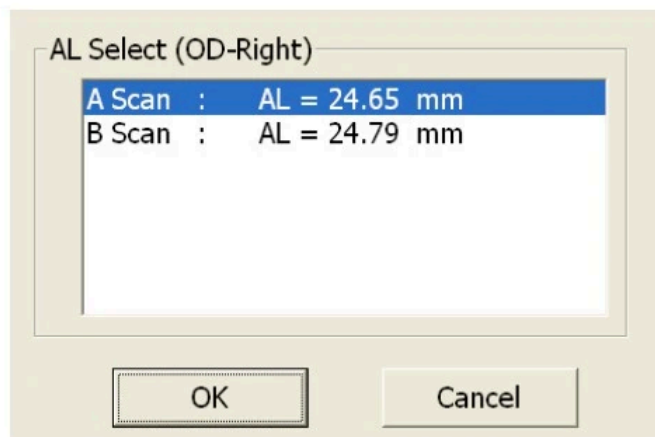

Figure 4-7-2 Dialog Box for Selecting AL Value
- e) Click **AL Select**, and a dialog box for selecting AL value pops up. "A Scan" row shows the AL value acquired from measurement under A-Scan mode; and "B Scan" row shows the AL value acquired from 5-Point Marking Method under B-Scan mode (shown in Figure 4-7-2).
- f) Click **AL Select**, and a dialog box for selecting AL value pops up. "A Scan" row shows the AL value acquired from measurement under A-Scan mode; and "B Scan" row shows the AL value acquired from 5-Point Marking Method under B-Scan mode (shown in Figure 4-7-2).